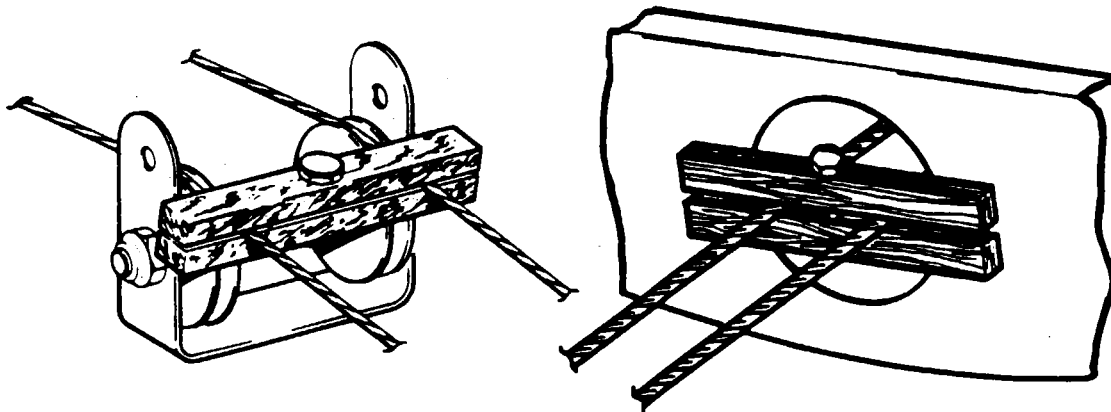

Figure 27-18. Methods of Securing Trim Cables
2. If the aft trim cable is not to be removed, block the cables at the pulleys in the aft section of the fuselage to prevent them from unwrapping from the trim drum. (Refer to Figure 27-18.)